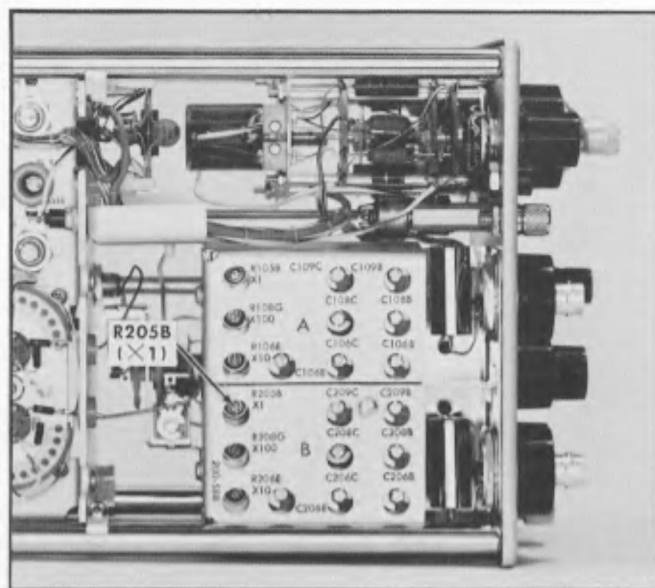

Fig. 5-39. Location of step 31g adjustment.
g. Adjust R205B (see Fig. 5-39) to obtain a null reading on the non-loading voltmeter.